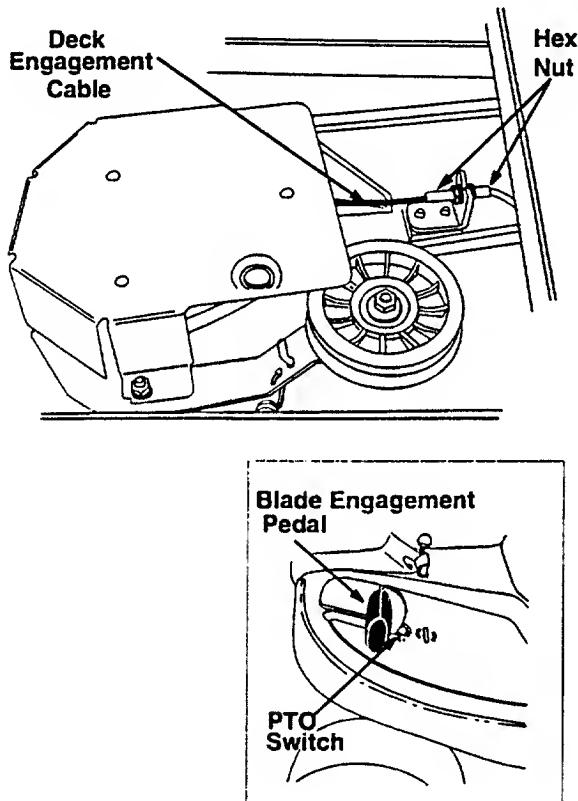

Figure 21
The blade engagement pedal should be adjusted so that if you depress it about 3/4" from the front of the slot, it should start engaging the deck belt. The PTO (power take off) switch is located in the blade brake slot on the left side of the upper frame. See Figure 21 inset. The brake engagement pedal needs to make contact with the PTO switch for the engine to start.
Adjustment to the blade brake will have to be made at the cable end. See Figure 21.
- If the belt is slipping when you depress the blade engagement pedal about 3/4", loosen the two hex nuts on the cable. See Figure 21.
- If the belt is engaging sooner than when the blade engagement pedal is 3/4" from the PTO switch, tighten both the hex nuts on the cable. See Figure 21.